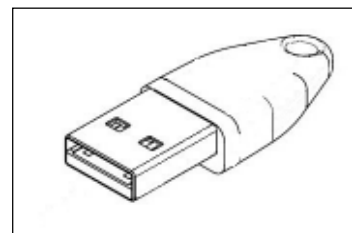

Figure 2 — Security Key
2. Connect the Service Tool security key (refer to Figure 2) to a USB port on the laptop computer. Continue to next section.